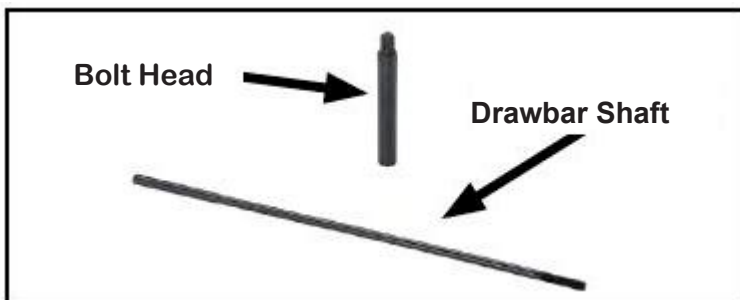

Figure 2. Bolt head and drawbar shaft.
1. Use a caliper to measure the diameter of your milling machine drawbar bolt head (Fig.2)